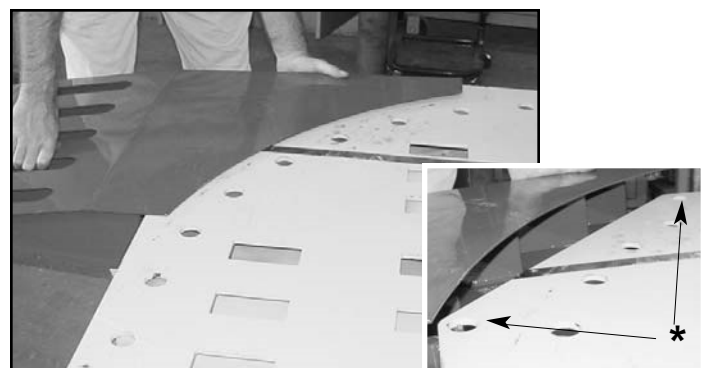

Figure 44
2. Install loading ramps at rear of machine. (See Figure 44.)